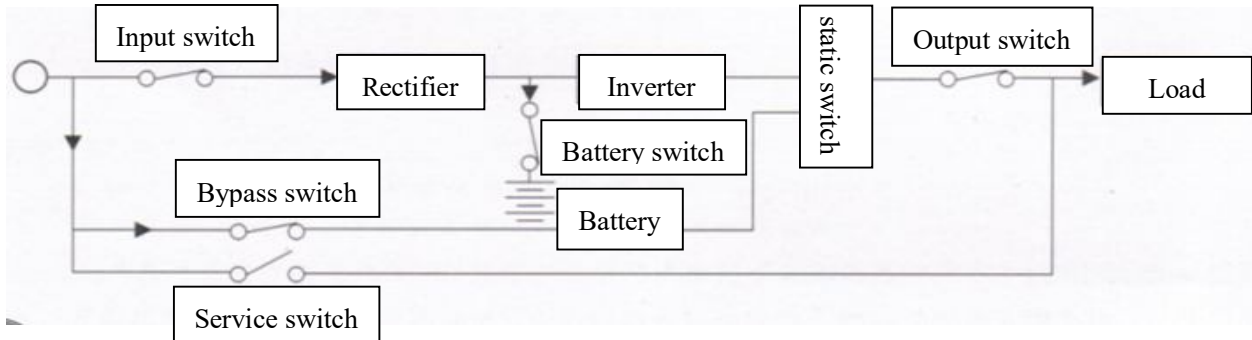

Figure 7
3. Fault. In this case, the yellow LED (BY) on the control panel is lit. See Figure 7